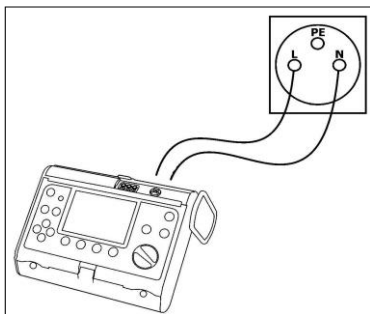

Fig. 18. Connection of the meter
- connect the meter with cables to the network socket in the board in accordance with Figure 18,